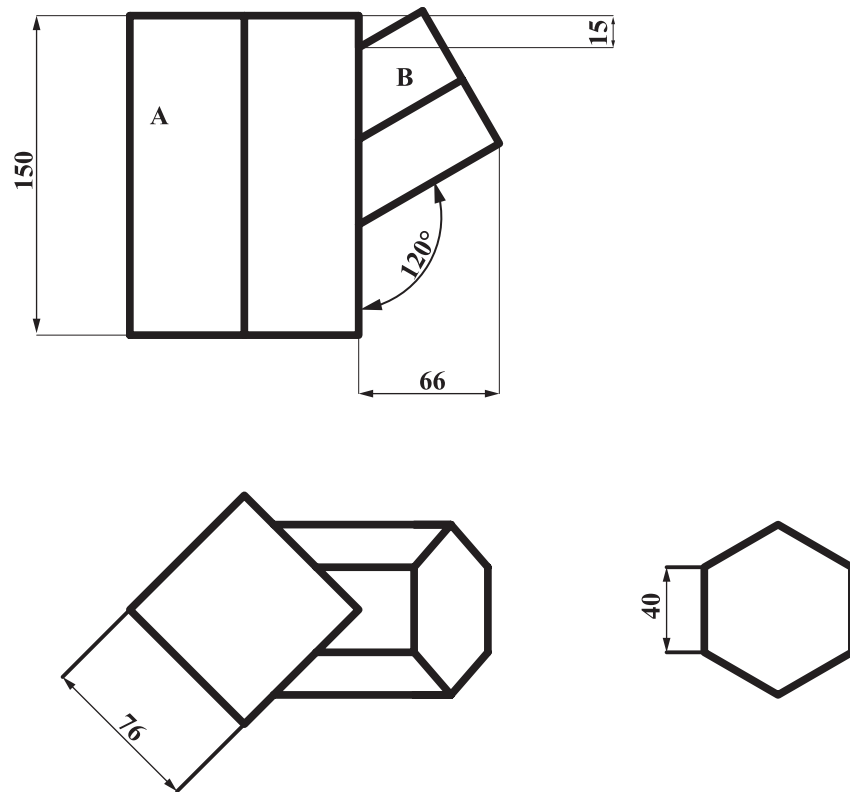

Figure 3. Partially completed orthographic drawing
- (b) Figure 3 is a partially completed orthographic drawing showing the joining of a hexagonal prism onto a square-based prism.